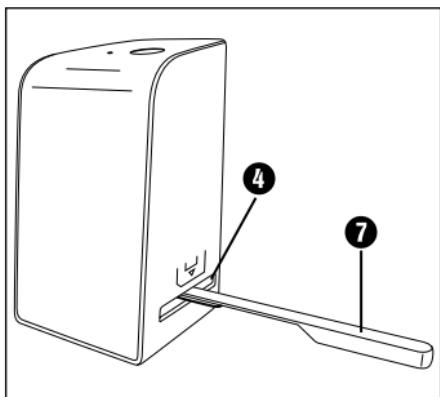

Figure 3
- ◆ Clean the surfaces of the background lighting inside the device with the cleaning brush 7. To do this, push the cleaning brush with the cleaning surface facing downwards into the slot 4 on the right (see figure 3).